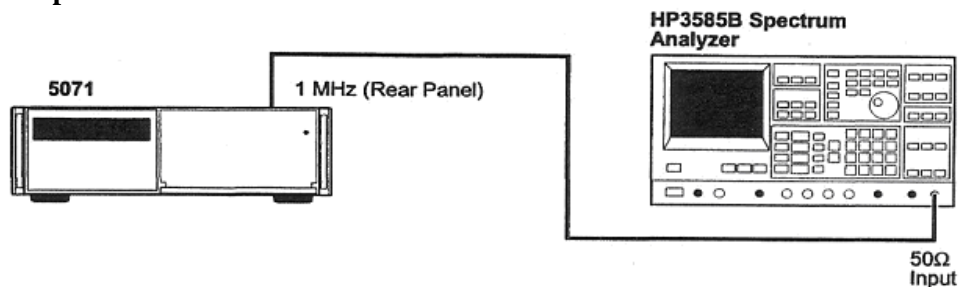

Figure A-5. 1MHz Output Harmonic Distortion Test Setup
- 1** Connect the 5071A 1 MHz output to the 3585B Spectrum Analyzer as shown in Figure A-5. Set the 3585B for 50 Ω input impedance.